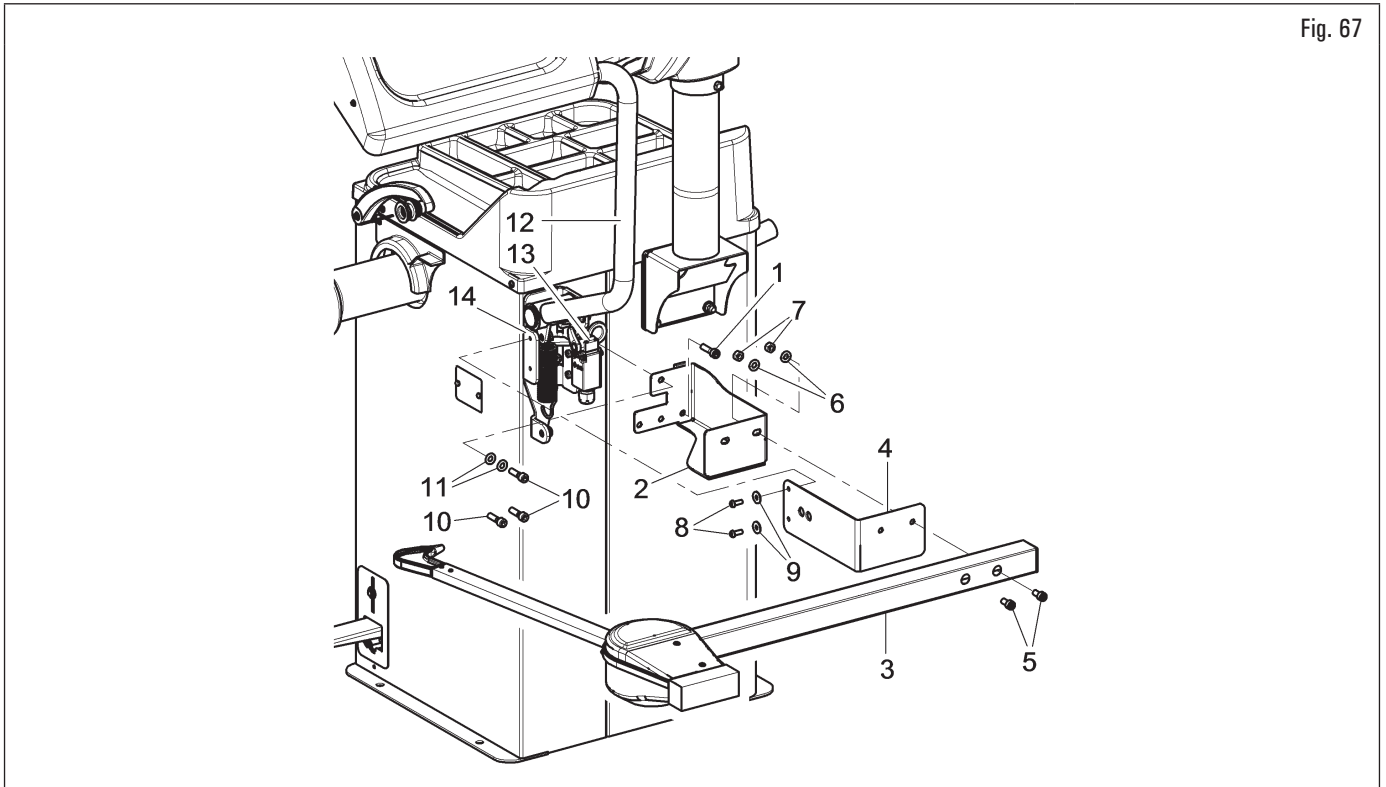
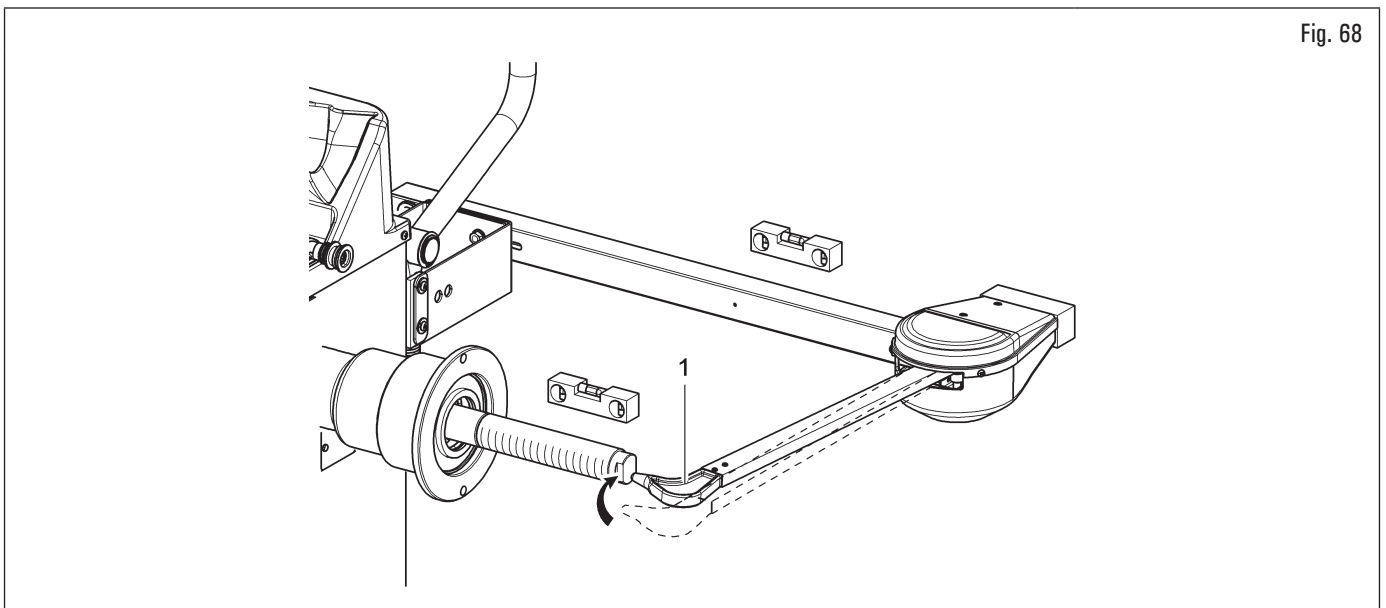

Fig. 67
Fig. 68
1. Remove the protection guard (Fig. 67 ref. 12), if already present;
2. remove the bolts (Fig. 67 ref. 10) and the washers (Fig. 67 ref. 11) from the wheel protection guard support, being very careful about holding the same support. Insert the gauge bracket (Fig. 67 ref. 2) into the lateral slot of the wheel protection guard support (see Fig. 68 ref. A);
3. if necessary, remove the microswitch (Fig. 67 ref. 13) so that it is possible to reach the securing bolts more easily;
4. fit the fixing bolt (Fig. 67 ref. 1) and bolts (Fig. 67 ref. 10), previously removed, into the gauge bracket (Fig. 67 ref. 2); then screw the assembly to the threaded rivets placed on the rear part of the frame, without using the previously removed washers (Fig. 67 ref. 11). Secure the bracket (Fig. 67 ref. 4) to the guard support (Fig. 67 ref. 14) using the bolts (Fig. 67 ref. 8) and the washers (Fig. 67 ref. 9), supplied. Lock the gauge arm (Fig. 67 ref. 3) to the brackets (Fig. 67 ref. 2 - 4) using the 2 bolts (Fig. 67 ref. 5), the washers (Fig. 67 ref. 6) and the nuts (Fig. 67 ref. 7), so that the shaft and the gauge arm are levelled (see Fig. 68);
5. at the end of the assembly, manually make sure the gauge tip (Fig. 68 ref. 1) is able to touch the chuck head;
9. mount microswitch again (Fig. 67 ref. 13), if previously removed;
10. mount the protection guard (Fig. 67 ref. 12) as described in Par. 7.1.2.8 "Protection guard assembly (on models with outside micro)"